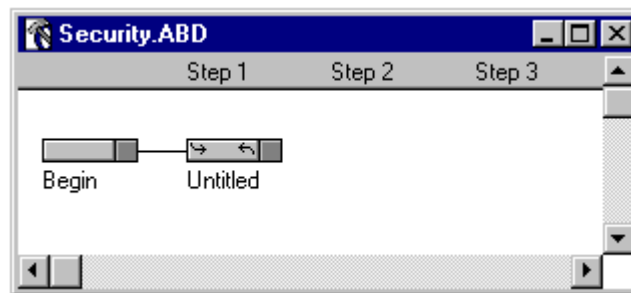

Figure 3-10 New Input Handler Added
- An untitled Input Handler is added to the application (Figure 3-10).